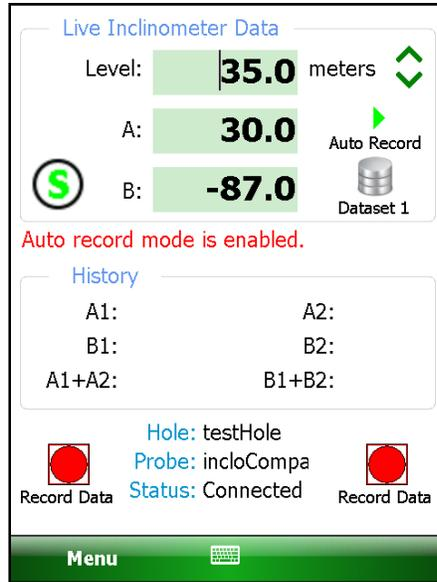

Figure 46 – Auto Record Enabled
If this selection is set to “Enable”, upon entry into the “Live Readings” screen, the “Auto Record” feature will be enabled (see Figure 46).
1. Tapping on the “Live Readings” menu item displays the screen shown in Figure 46).